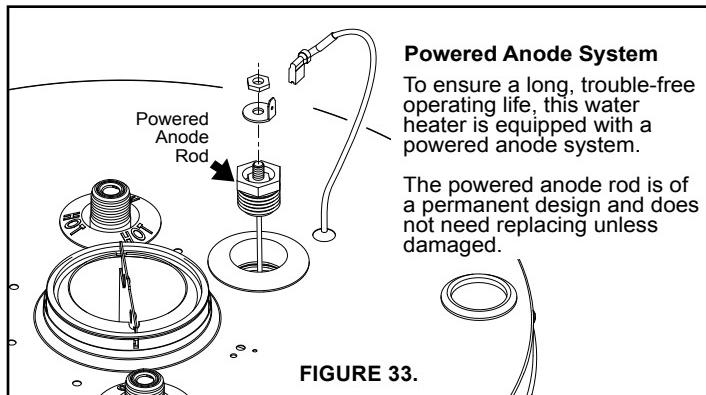

FIGURE 33.
- Unplug the electrical connection on top of the powered anode by pulling the wire connector up and off of the powered anode rod electrical connector (Figure 33).
- Remove the powered anode rod by using a ratchet and a 1-1/16" socket turning counterclockwise (Figure 33) (Note: Figure 33 is shown exploded). If the socket used is short well you may have to remove the top male connector first before removing the powered anode rod.
- Prior to installing, it will be necessary to use pliers to bend up approximately 90° the electrical male connector on the top of the powered anode rod. The electrical connector should be bent upward in order to allow the 1-1/16" deep well socket to pass over the connector. Note: if using a short well socket the male connector must first be removed (Figure 33 is shown exploded for clarity).